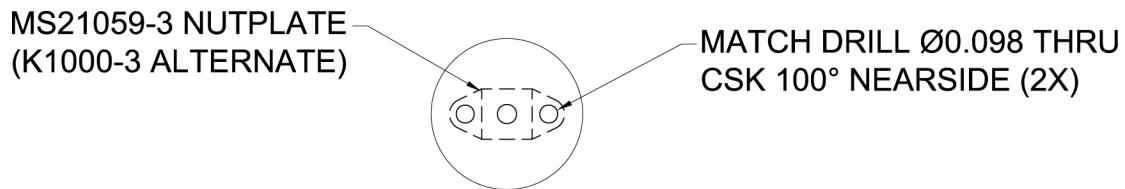

Figure A-15 Aligned Nutplate And Disk
10. Align one stainless steel nutplate MS21048-3 (or K1001-3) to each disk using the center hole as a guide. Match drill 0.098 holes to nutplate and countersink 100° on one side. Refer to Figure A-15.